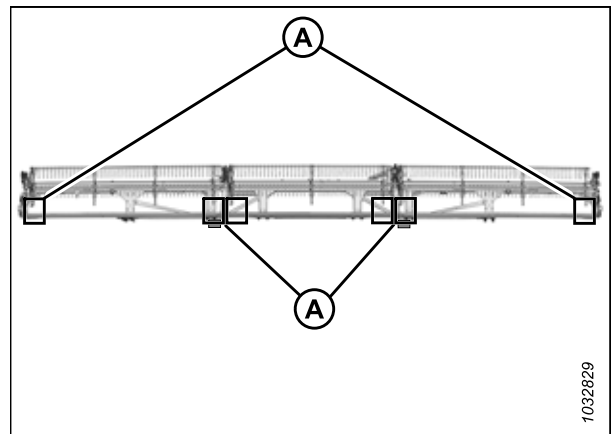

Figure 4.266: FlexDraper® Measurement Locations – Triple Reel
- Triple-reel headers: Figure 4.266, page 431